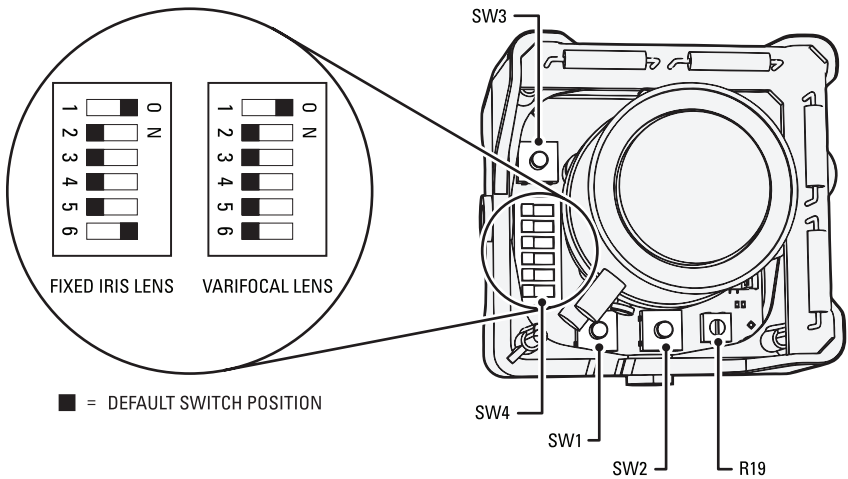

Figure 11. Adjusting the IS110-DN/CH Series Camclosure
Refer to Figure 11 to adjust the IS110-DN or IS110-CH model.
To adjust the auto iris DC drive level (refer to Figure 11 on page 21):
2. Select the camera to synchronize. Use buttons SW1 and SW2 to synchronize the camera to the reference camera (refer to Figure 11 on page 21). SW1 increases vertical phase; SW2 decreases vertical phase.
To manually correct defective pixels (refer to Figure 11 on page 21):